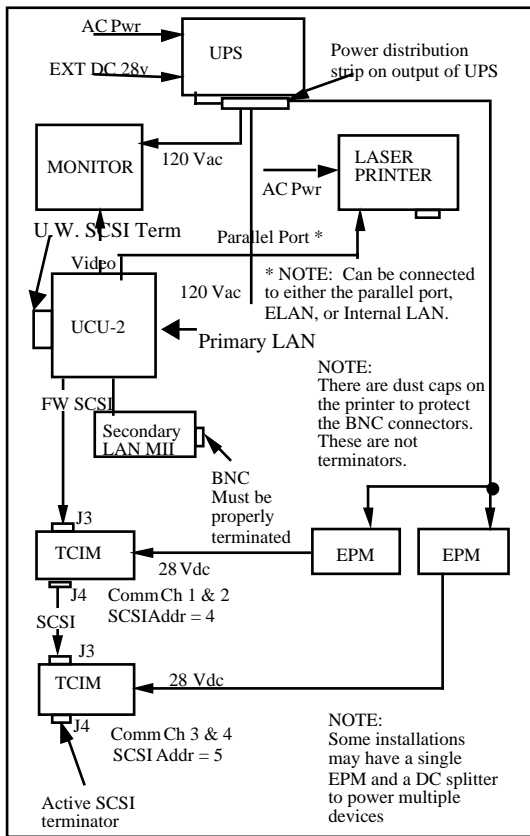

Figure 4. Standard UCU FSCT Arrangement
B. Equipment Setup Instructions. The following steps show how to properly setup and wire an AFATDS workstation. See Figure 4 below for reference. For information on connecting the video monitor, SCSI cables, wire line adapter, and LAN, see the Common OPFAC Configuration section of this guide.